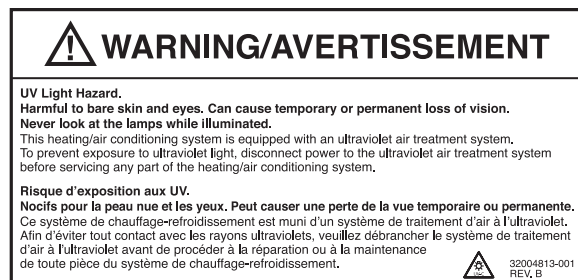

Fig. 8. HVAC maintenance UV safety label.
17. Adhere the HVAC maintenance safety label to the HVAC equipment (selected in step 16) such as the furnace, air cleaner or humidifier. See Fig. 8.